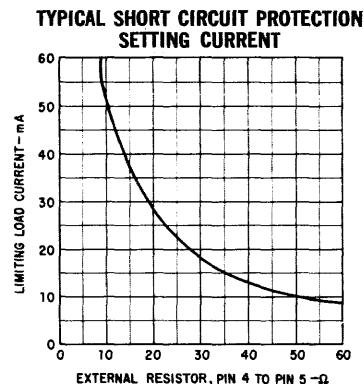

FIGURE 3
- (3) Selection of Short Circuit Current: The maximum limit on the internal short circuit protection at any current from 1 to 50 mA can be set by externally connecting a pre-selected resistor (see figure 3) between pin 4 and pin 5.
- (4) This pin is made available for connections to compensating networks which can be used to alter the dynamic response of the regulator to meet unusual load requirements. No connection is necessary for normal operation.